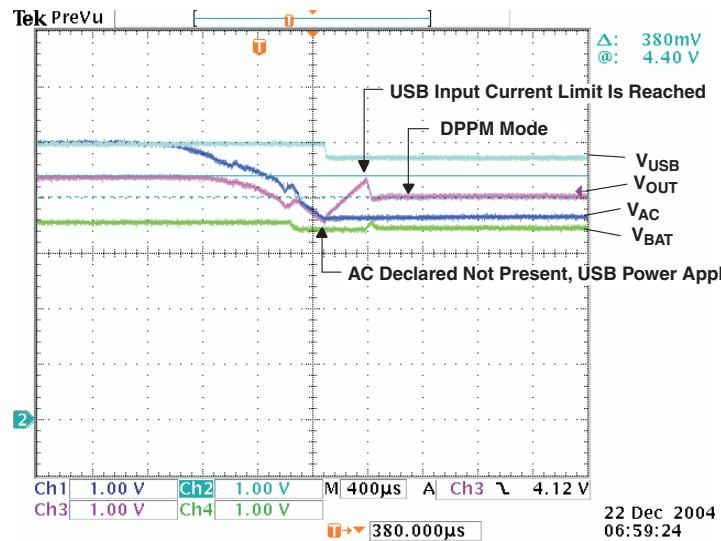

Figure 7. Remove AC – Power Transfer to USB
Figure 7 illustrates when AC is removed, power transfers to USB [PSEL = H (AC primary source), channel 1 (CH1) V_{AC} = 5.4 V, channel 2 (CH2) V_(USB) = 5 V, channel 3 (CH3) V_{OUT}, output current I_{OUT} = 0.25 A, channel 4 (CH4) V_{BAT} = 3.5 V, and I_(PGM-CHG) = 1 A]. The power transfer from AC to USB only takes place after the primary source (AC) is considered bad (too low, V_{AC} ≤ V_{BAT} + 125 mV) indicated by the ACPG FET turning off (open drain not shown). Thus, the output drops down to the battery voltage before the USB source is connected (sixth division). The output starts to recover when the USB FET starts to limit the input current (seventh division) and the output drops to the V_(DPPM-REG) threshold.